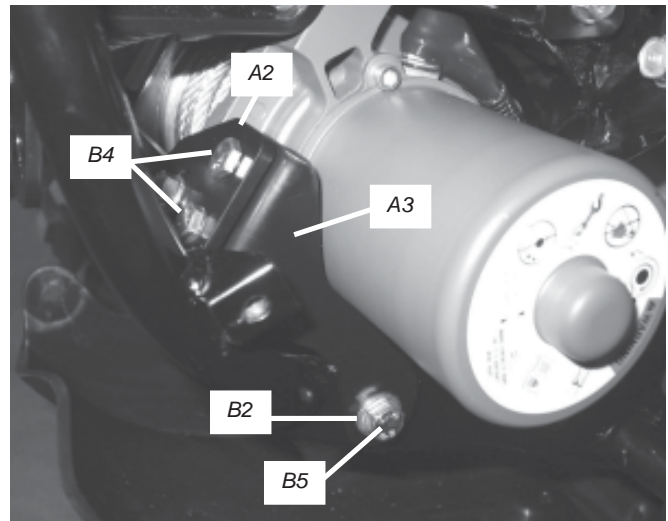

Figure 14 Completed Winch Installation on the Rubicon
15. Place the side mounting bracket (A3) onto the bottom mounting bracket (A2) and install the two supplied 1/4-20 x 3/4" bolts (B4), figure 14. Fasten the supplied 8mm-1.25 x 25mm bolt (B5) and flat washer (B2) through the side mounting bracket and bumper. Do not tighten at this time.